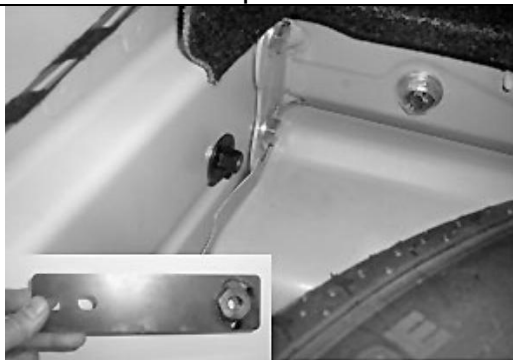

Figure 9 – Fit the side arm.
10. Fit the side arm, in the same way, as shown in Figure 9, with the weld-nut acting as a spacer between the side arm and the chassis rail.